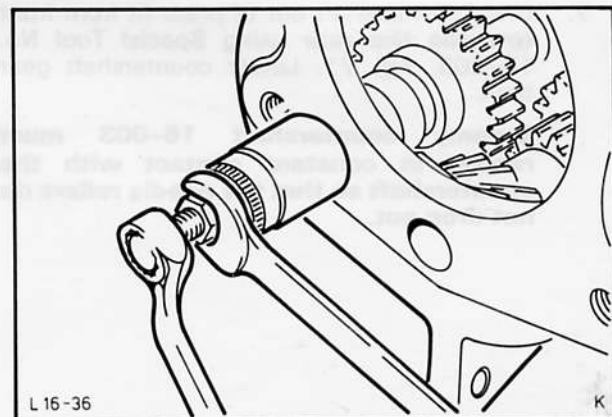

Fig. 74. Remove reverse gear idler shaft
10. Remove reverse gear idler shaft. Screw an M8×60 mm (5/16 in×24G) bolt fitted with a nut, washer and socket into the idler shaft. Draw out shaft by tightening the nut, Fig. 74.